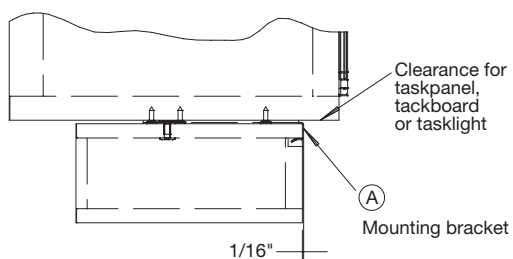

Fig. 2
1. In the depth direction, the mounting bracket (A) should be set back 1/16" from the back of the unit. (Fig. 2)